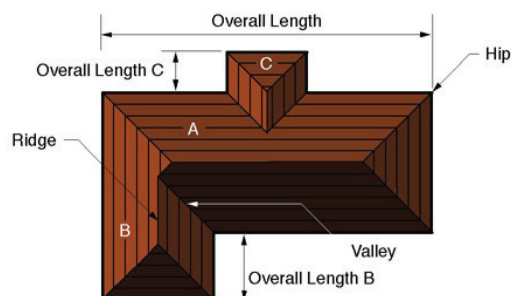

Fig 5.2.2
- (ii) **HIP AND VALLEY ROOFS:** First take the section with the longest rafters (section A Fig 5.2.2). From Table 5.1 calculate the requirements for that section and then for the remaining sections (sections B and C in Fig 5.2.2). Find the total length of hips and valleys and using the formula outlined in (iii), calculate the additional tiles required for hips and valleys to obtain the total tile requirement.